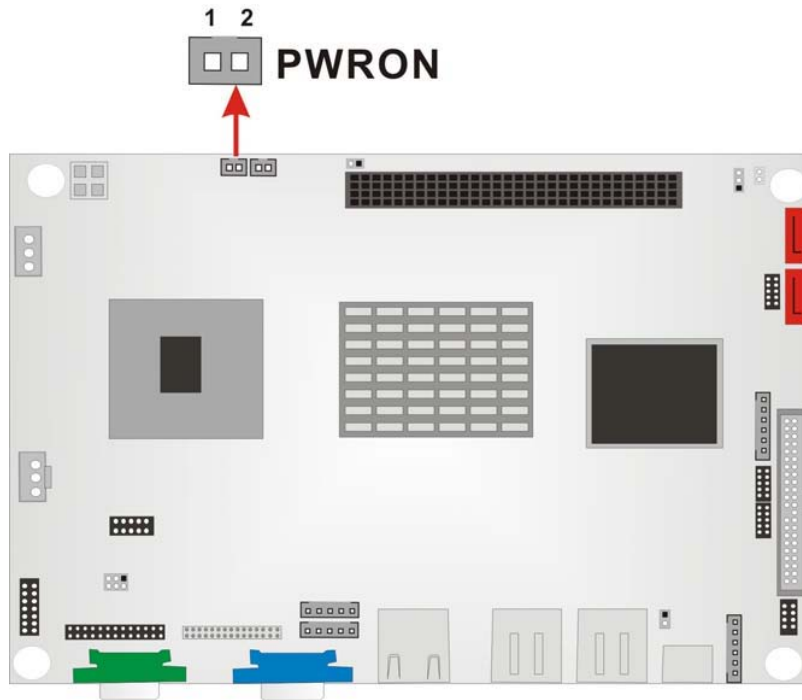

Figure 3-4: Power Button Connector Location
- CN Location:** See Figure 3-4